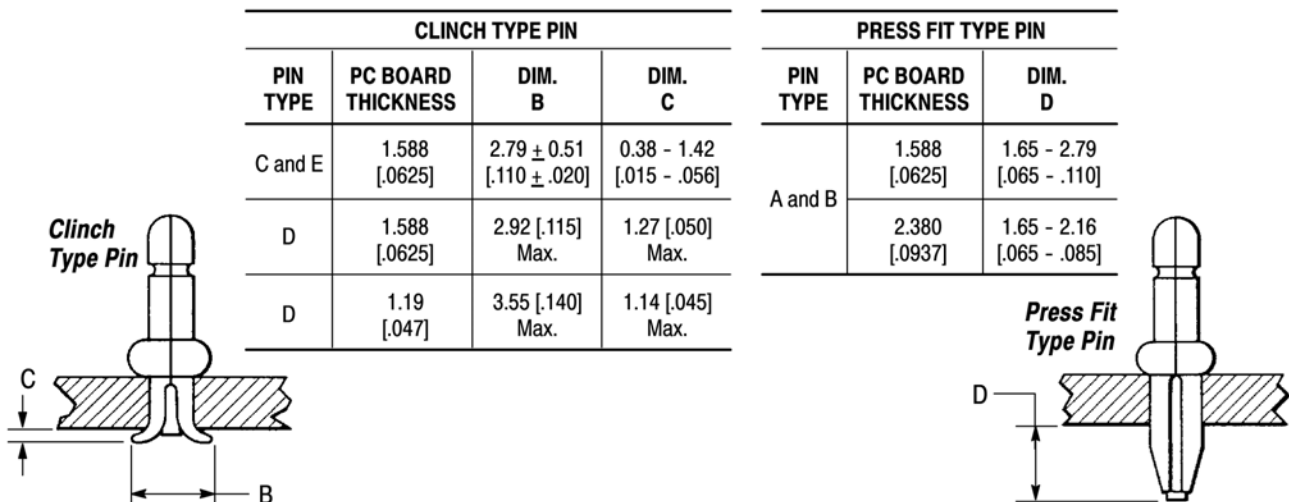

Figure 6
- 4) Pin dimensions must be as shown in Figure 6.